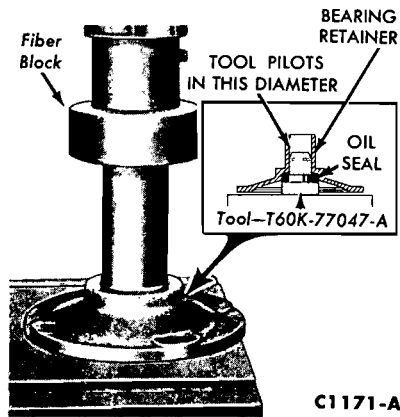

Fig. 12—Installing Input Shaft Seal
2. Install a new input shaft seal as shown in Fig. 12.